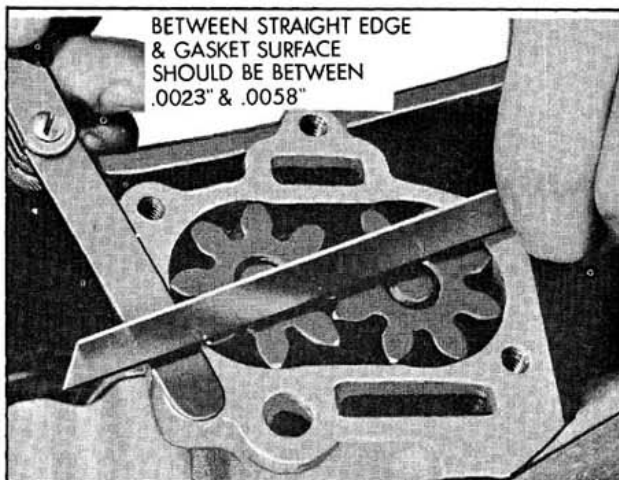

Fig. 3-24 Checking End Clearance
3. Place a straight edge over the gears and measure the clearance between the straight edge and the gasket surface. Clearance should be between .0023" and .0058". If clearance is less than .0023" check timing chain cover gear pocket for evidence of wear. (Fig. 3-24)